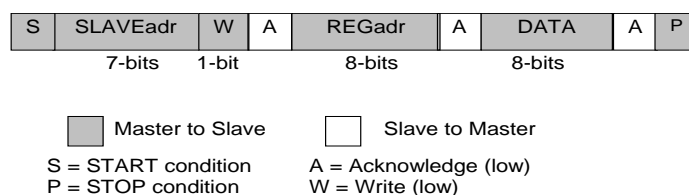
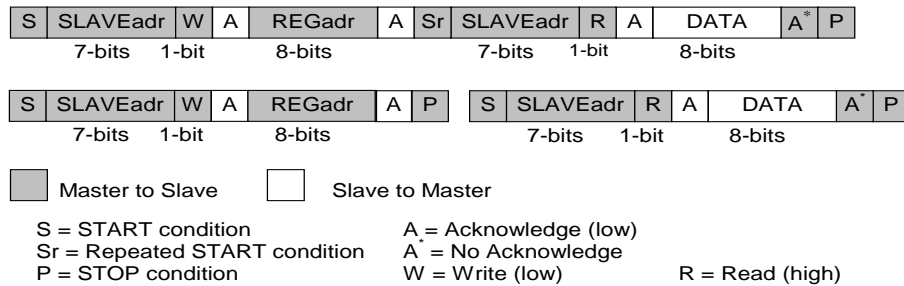

Figure 7: I²C Byte Write (SDA Line)
Figure 8: I²C Byte Read (SDA Line) Examples
The I²C bus is monitored for a valid slave address whenever the interface is enabled. It responds immediately when it receives its own slave address. The acknowledge is done by pulling the SDA line low during the following clock cycle (white blocks marked with A in Figure 7 and Figure 8).
The protocol for a register write from master to slave consists of a START condition, a slave address with read/write bit, and the eight-bit register address followed by eight bits of data, terminated by a STOP condition. DA9141 responds to all bytes with acknowledge (A), see Figure 7.
with a repeated START, or alternatively a second START, condition. After receiving the data, the host sends no acknowledge (A*) and terminates the transmission with a STOP condition, see Figure 8.